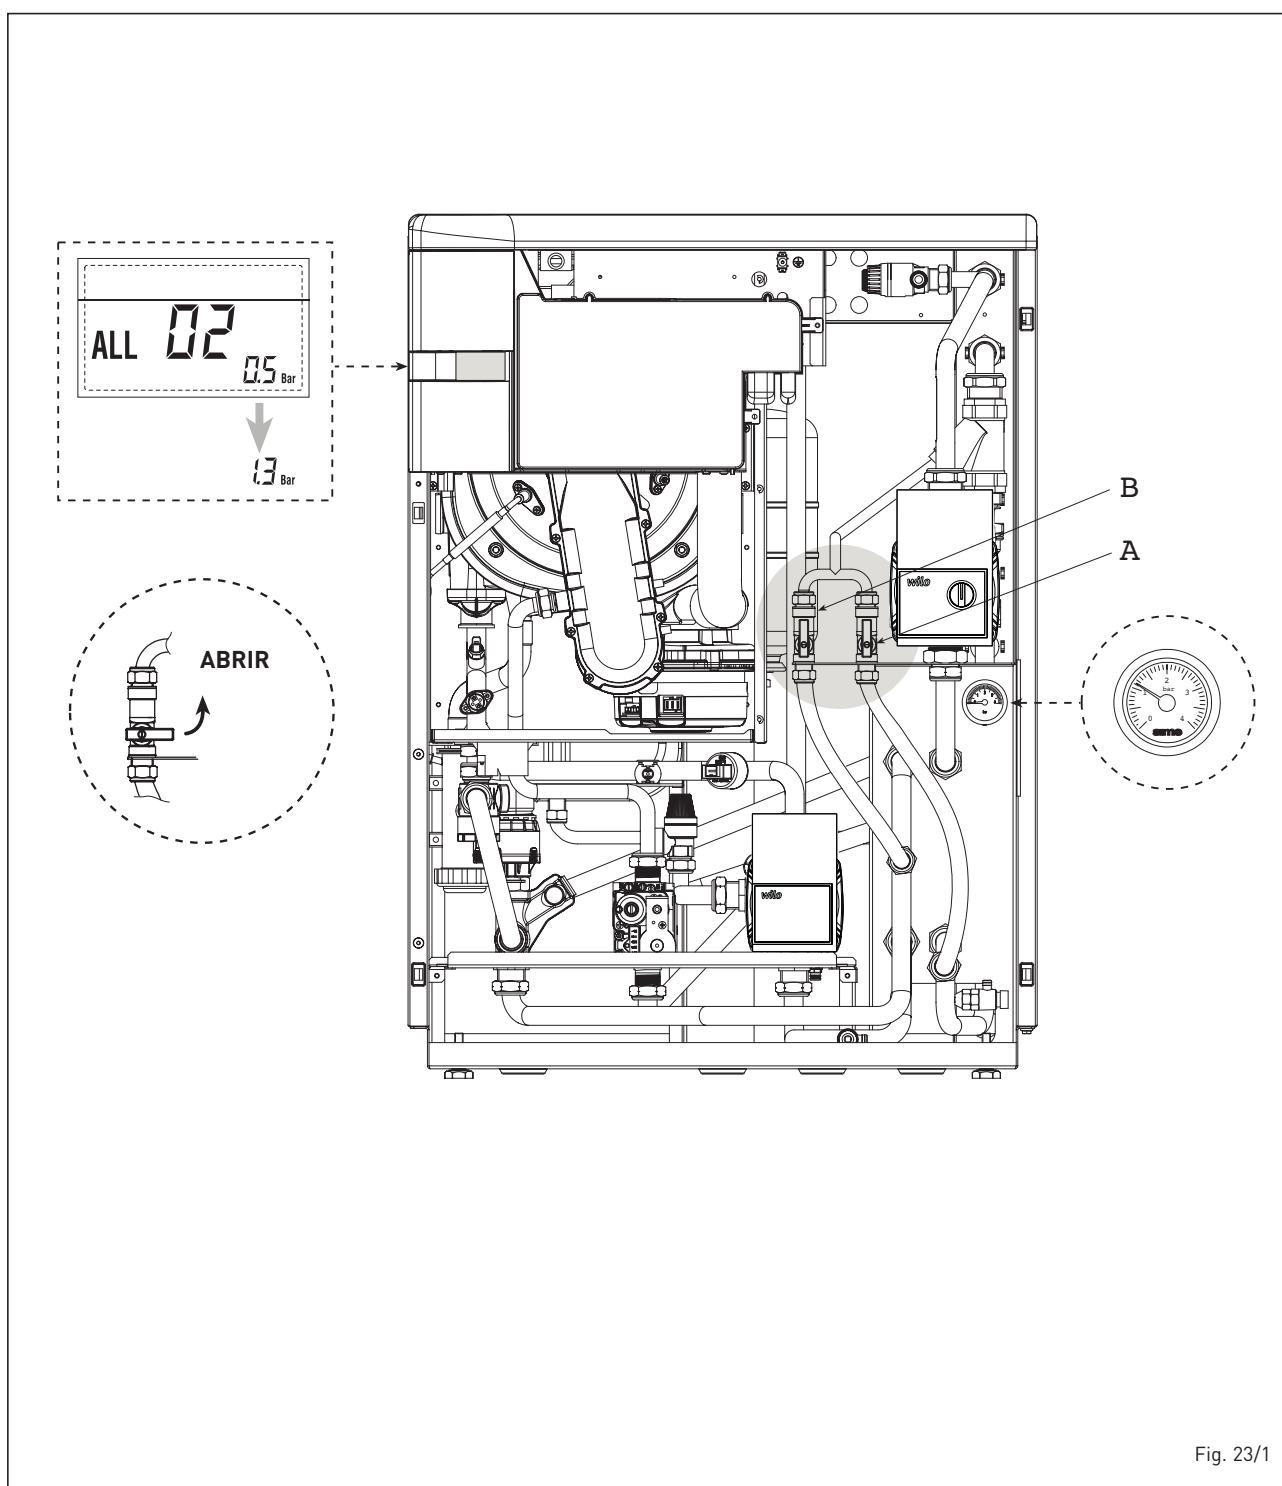

Fig. 23/1
– **“ALL 06” BLOQUEO LLAMA (fig. 23/2)**